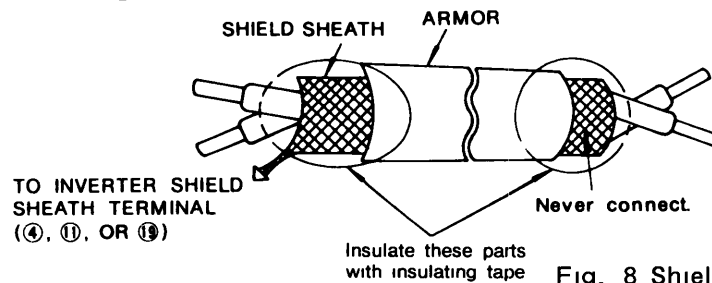

Fig. 8 Shielded Lead Termination
(2) Control circuit leads
Use the twisted shielded or twisted-pair shielded lead for the control circuit line and connect the shield sheath to the any of the inverter terminals ①④, ①⑪, or ①⑯. See Fig. 8.